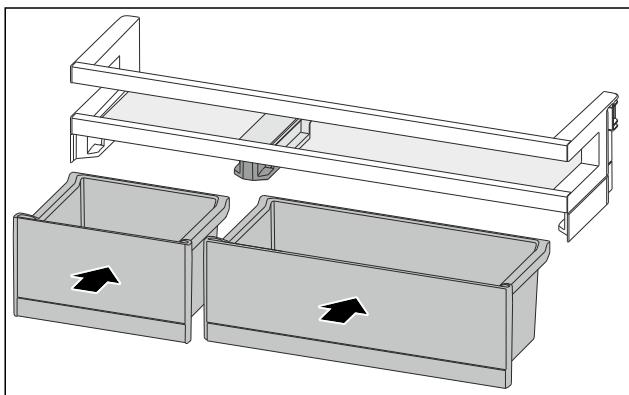

Fig. 115
- ▶ Insert the VarioBoxes in reverse order. (see Fig. 115)